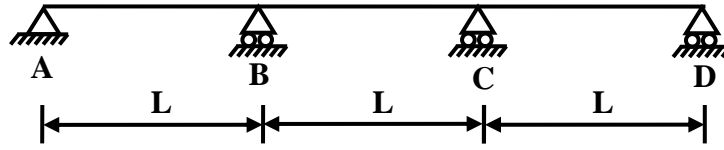

Fig. 2
8. For the continuous beam ABCD shown in fig.2, construct qualitative Influence Line Diagrams of R_A , R_B , R_C , R_D and bending moment & shear force at the central section of span AB.